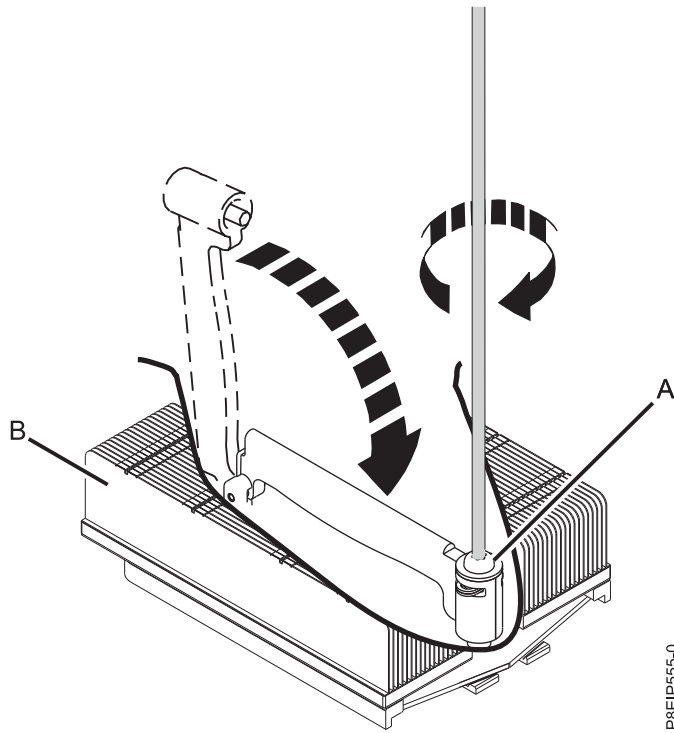

Figure 56. Tightening the load arm screw
11. Move the load arm (A) into position over the heat sink (B) and tighten the load arm screw with a #3 Phillips screw driver, as shown in Figure 56.